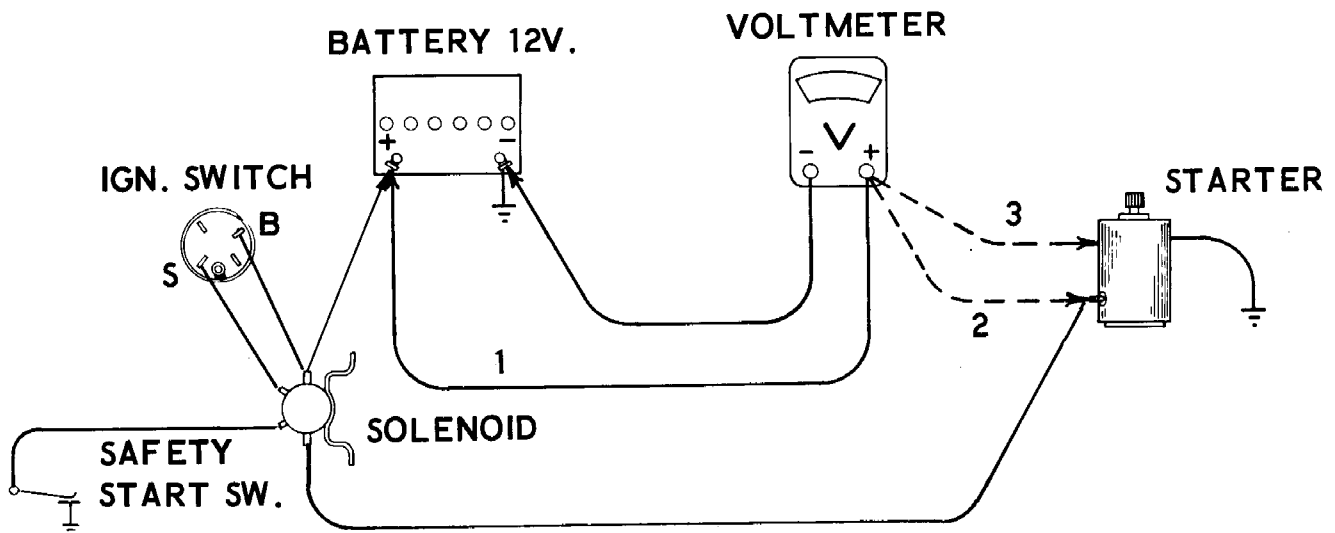

Figure 4
1. **AVAILABLE VOLTAGE - BATTERY CONDITION:** Connect a voltmeter between the positive and negative terminals of the battery. #1 - Figure 4: Crank the engine for 30 seconds and record the voltage. Should be 9.5
2. **INSULATED CIRCUIT RESISTANCE TEST:** Move red voltmeter clip to starter Terminal #2 - Figure 4. Crank engine and record voltage. If more than .5 volt less than in Step #1 above, check cables, connections or solenoid.
3. **GROUND CIRCUIT RESISTANCE TEST:** Move red voltmeter clip to ground on starter housing, #3 - Figure 4. Crank engine, if more than .2 volt appears on meter, check starter frame mounting at starter and at engine block, negative cable and connections at engine and battery negative terminal.